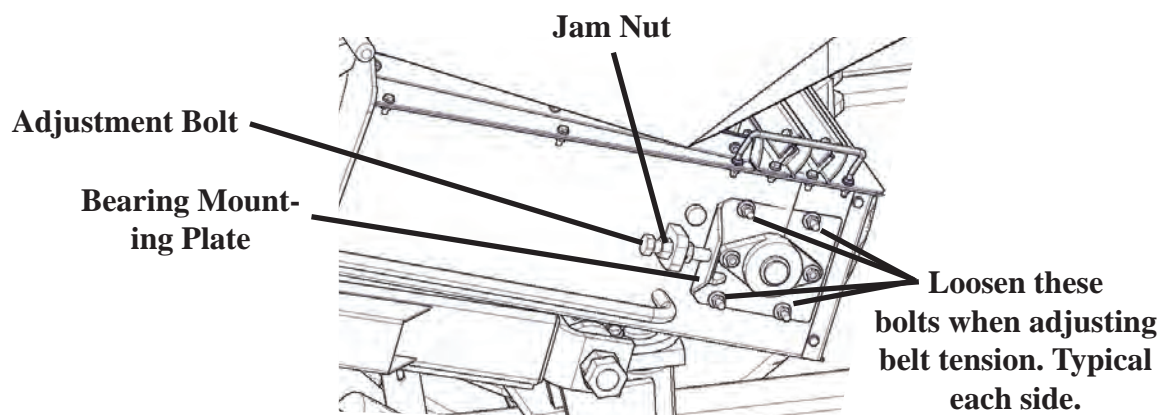

Figure 2.5
1. Loosen (Do Not Remove) the 4 bolts on the two bearing mounting plates located at the collapsible hopper end of the conveyor (Figure 2.5).
3. Loosen jam nut on adjustment bolt (Figure 2.5).